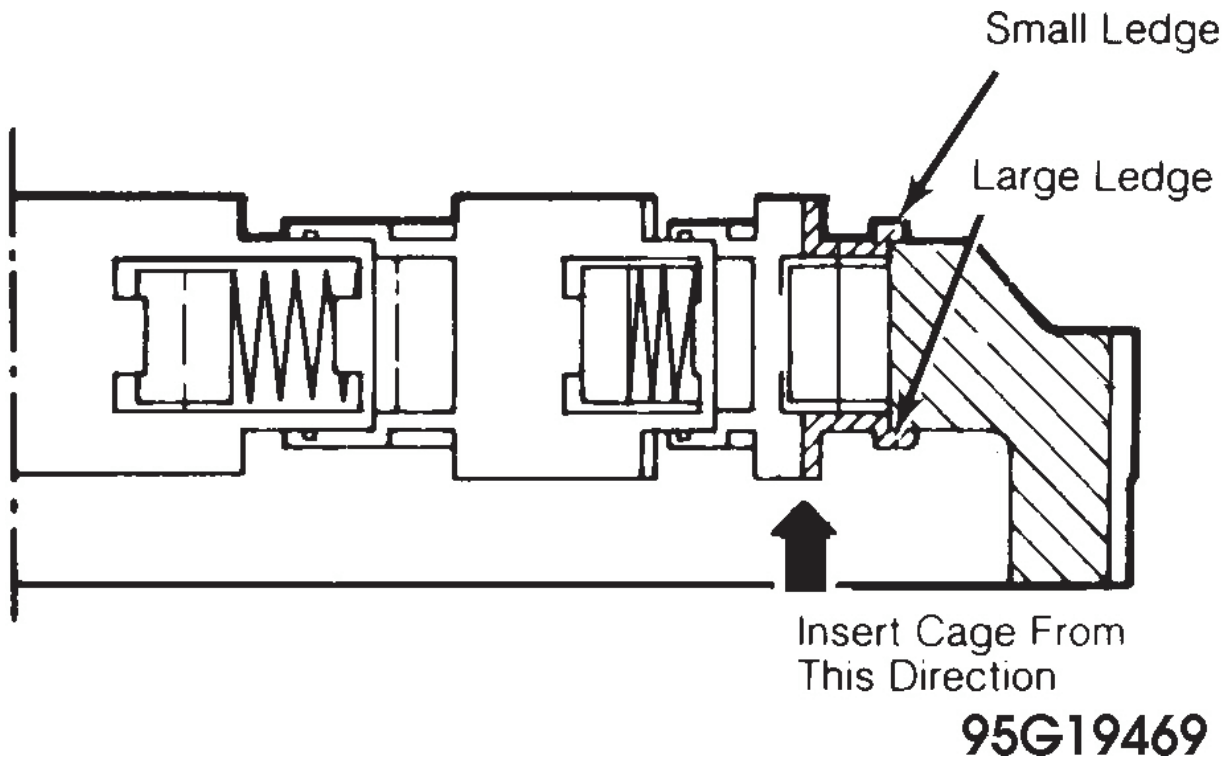

Fig. 24: Installing One-Way Clutch Into Outer Race
5. Insert roller cage from flat side of outer race (small ledge toward tapered side and large ledge toward flat side). See **Fig. 24**. With outer race/roller cage assembled and laying on flat side, turn cage clockwise to secure. If assembled correctly clutch will not turn counterclockwise.